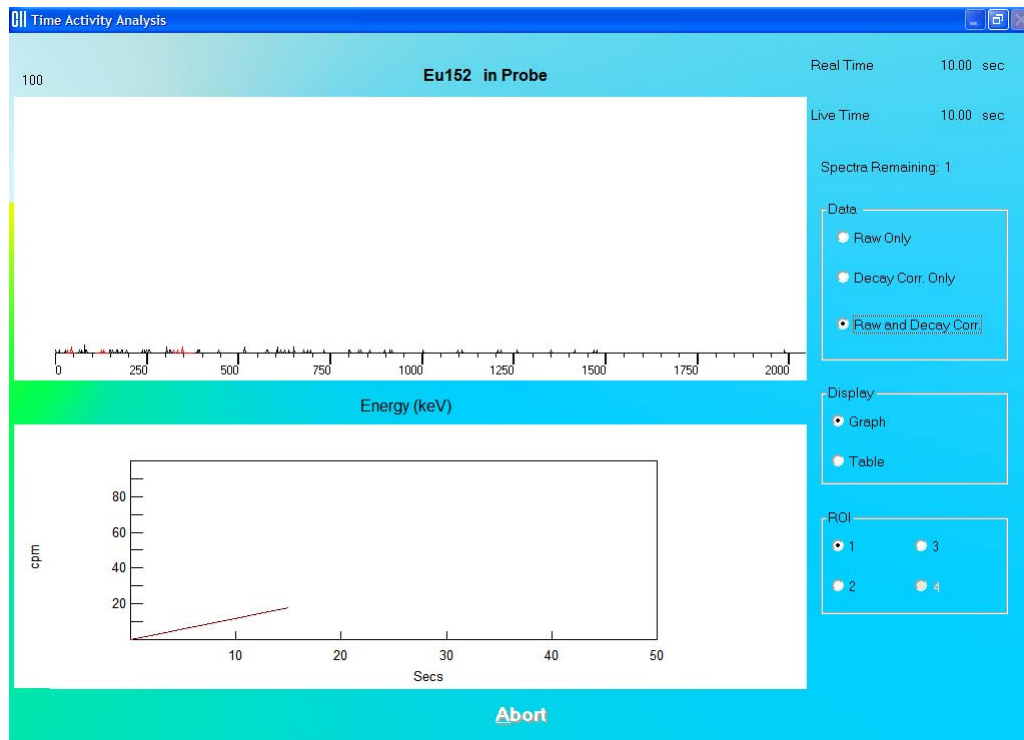

Figure 9-7
3. Place the isotope source in the designated detector and click the  button. As counting progresses, Real Time and Live Time for each repetition is displayed in the upper right of the screen as shown in Figure 9-7. The number of measurement repetitions (spectra) remaining is displayed below the Live time.